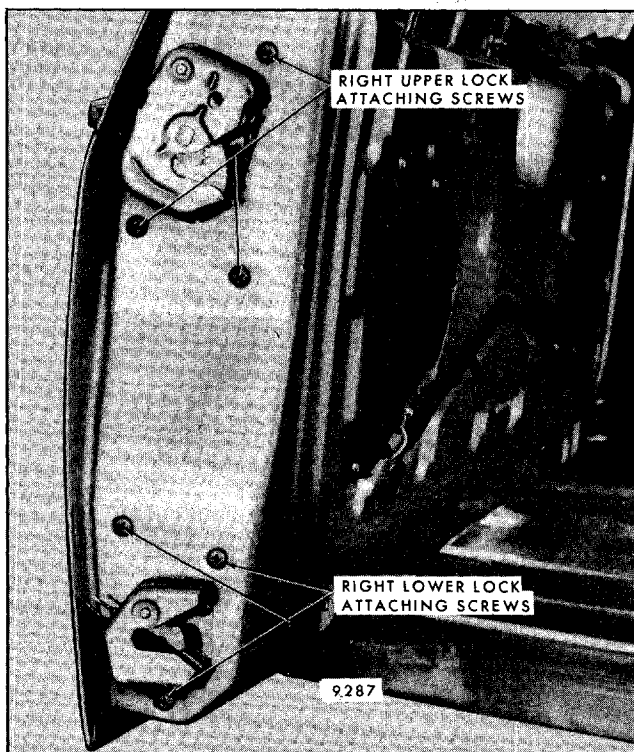

Fig. 7-137 - Tailgate Right Upper and Lower Lock Attaching Screws
5. Remove gate to lock attaching screws and remove lock through access hole, Figure 7-137.
1. With tailgate open in the door position, install screws securing lock to tailgate, Figure 7-137. Torque to 9 to 11 N·m (80 to 100 in-lb).
- Remove gate to lock attaching screws, Figure 7-137, and remove lock assembly through access hole.